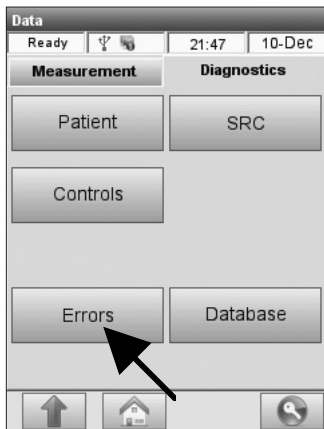

Fig. 6-24 Select Errors
2. In the **<Data>** screen, press the **<Diagnostics>** tab and select **<Errors>** (Fig. 6-24).